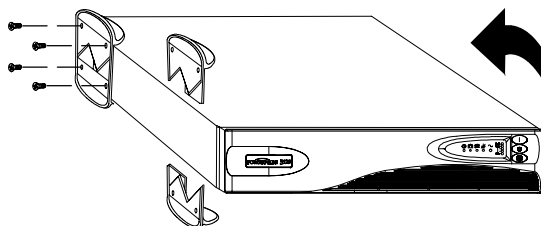

Figure 5. Installing Pedestals on a Single Cabinet
2. Place the UPS cabinet horizontally so that the left end of the unit is accessible (see Figure 5).